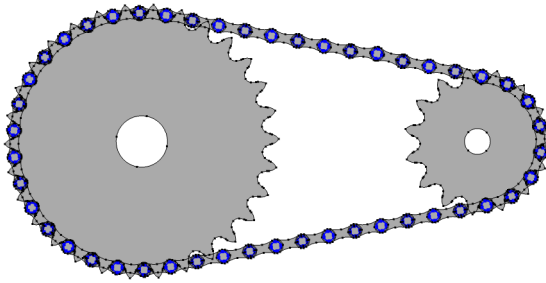

Figure 4: The Pin Inner Boundaries selection for creating attachments.
- **Roller Inner Boundaries:** This is a boundary selection containing the inner boundaries of the roller plates. The selection is used for creating an **Attachment** node for each of the roller plates, and it is located at same geometrical position as the Pin Inner Boundaries (Figure 4). Attachments created for the pin and roller plates are used as **Source** and **Destination** in **Hinge Joint** nodes.